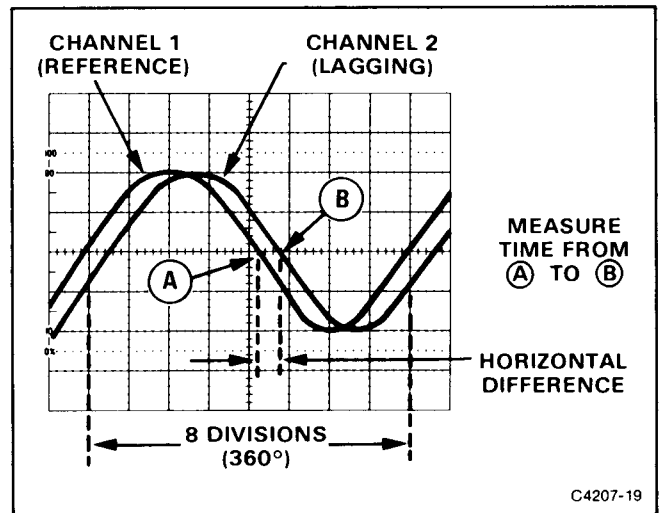
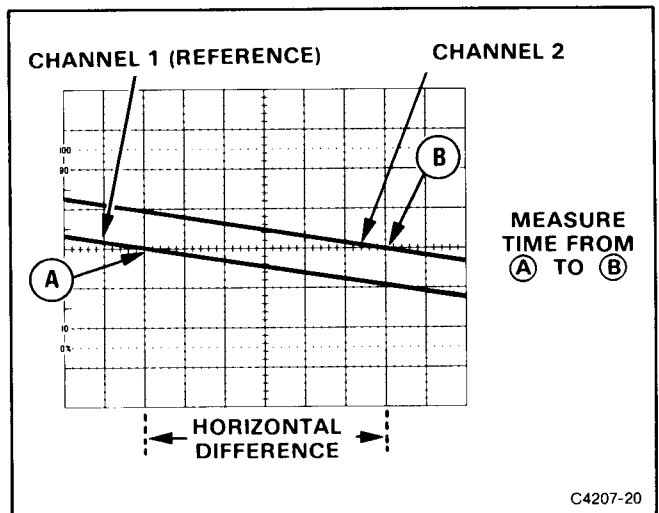

Figure 4-9. Phase difference.
Figure 4-10. High-resolution phase difference.
9. Position the displays and adjust the SEC/DIV Variable control so that one reference-signal cycle occupies exactly 8 horizontal graticule divisions at the 50% rise-time points (see Figure 4-9). Each division of the graticule now represents 45° of the cycle ($360^\circ \div 8$ divisions), and the horizontal graticule calibration can be stated as 45° per division.
Example: The horizontal difference is 0.6 division with a graticule calibration of 45° per division as shown in Figure 4-9.
EXAMPLE: If the sweep speed were increased 10 times with the magnifier (X10 Magnifier knob out), the magnified horizontal graticule calibration would be $45^\circ/\text{division}$ divided by 10 or $4.5^\circ/\text{division}$. Figure 4-10 shows the same signals illustrated in Figure 4-9, but magnifying the displays results in a horizontal difference of 6 divisions between the two signals.